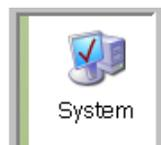

FIG. 218
2. Double click on the System Icon (FIG. 218).